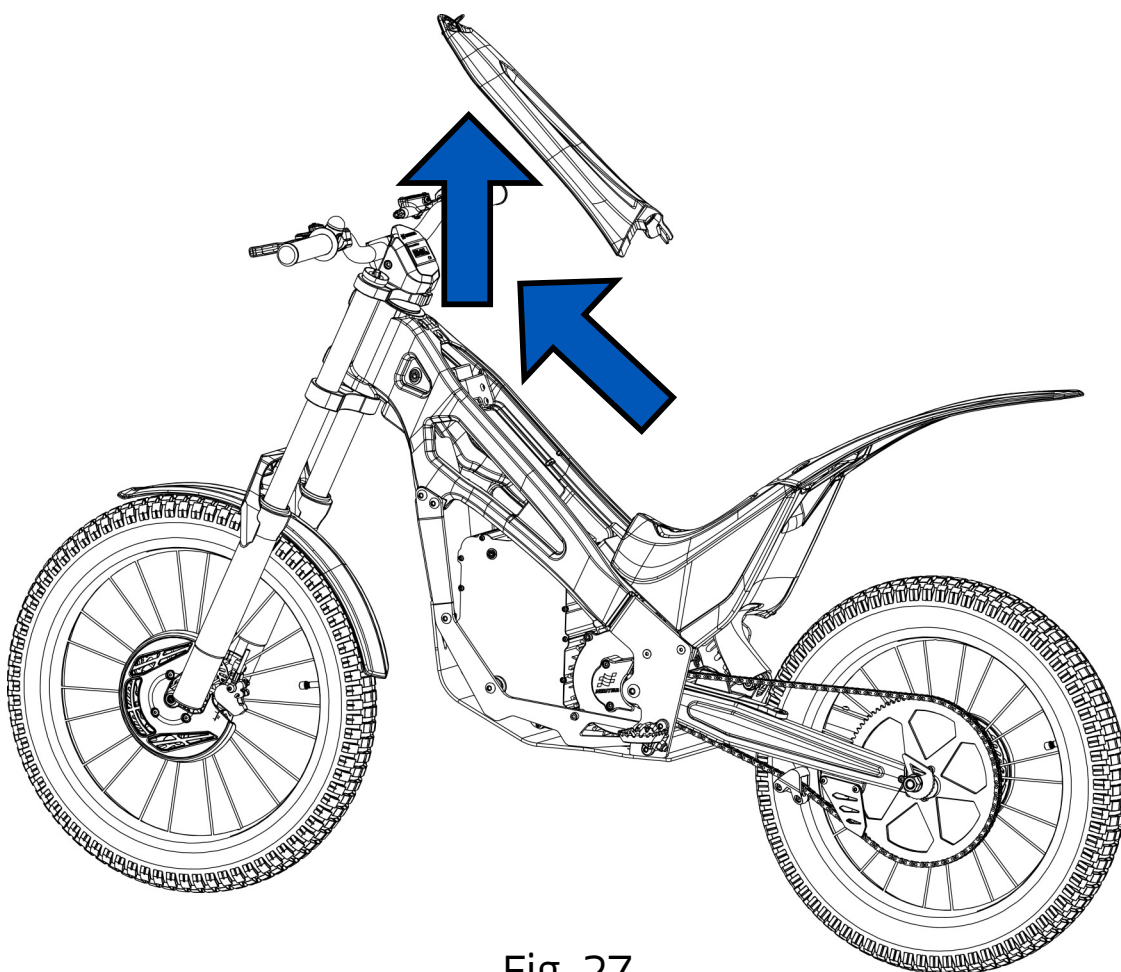

Fig. 27
3- Move the cover forward and then you can remove the upper casing of the motorcycle upwards (Figure 27).
- 3- Remove the top cover of the motorcycle (Figure 27).